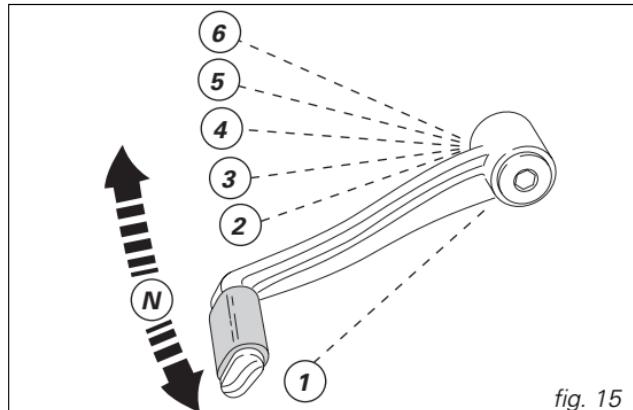

fig. 15
**Gearchange pedal** (fig. 15)